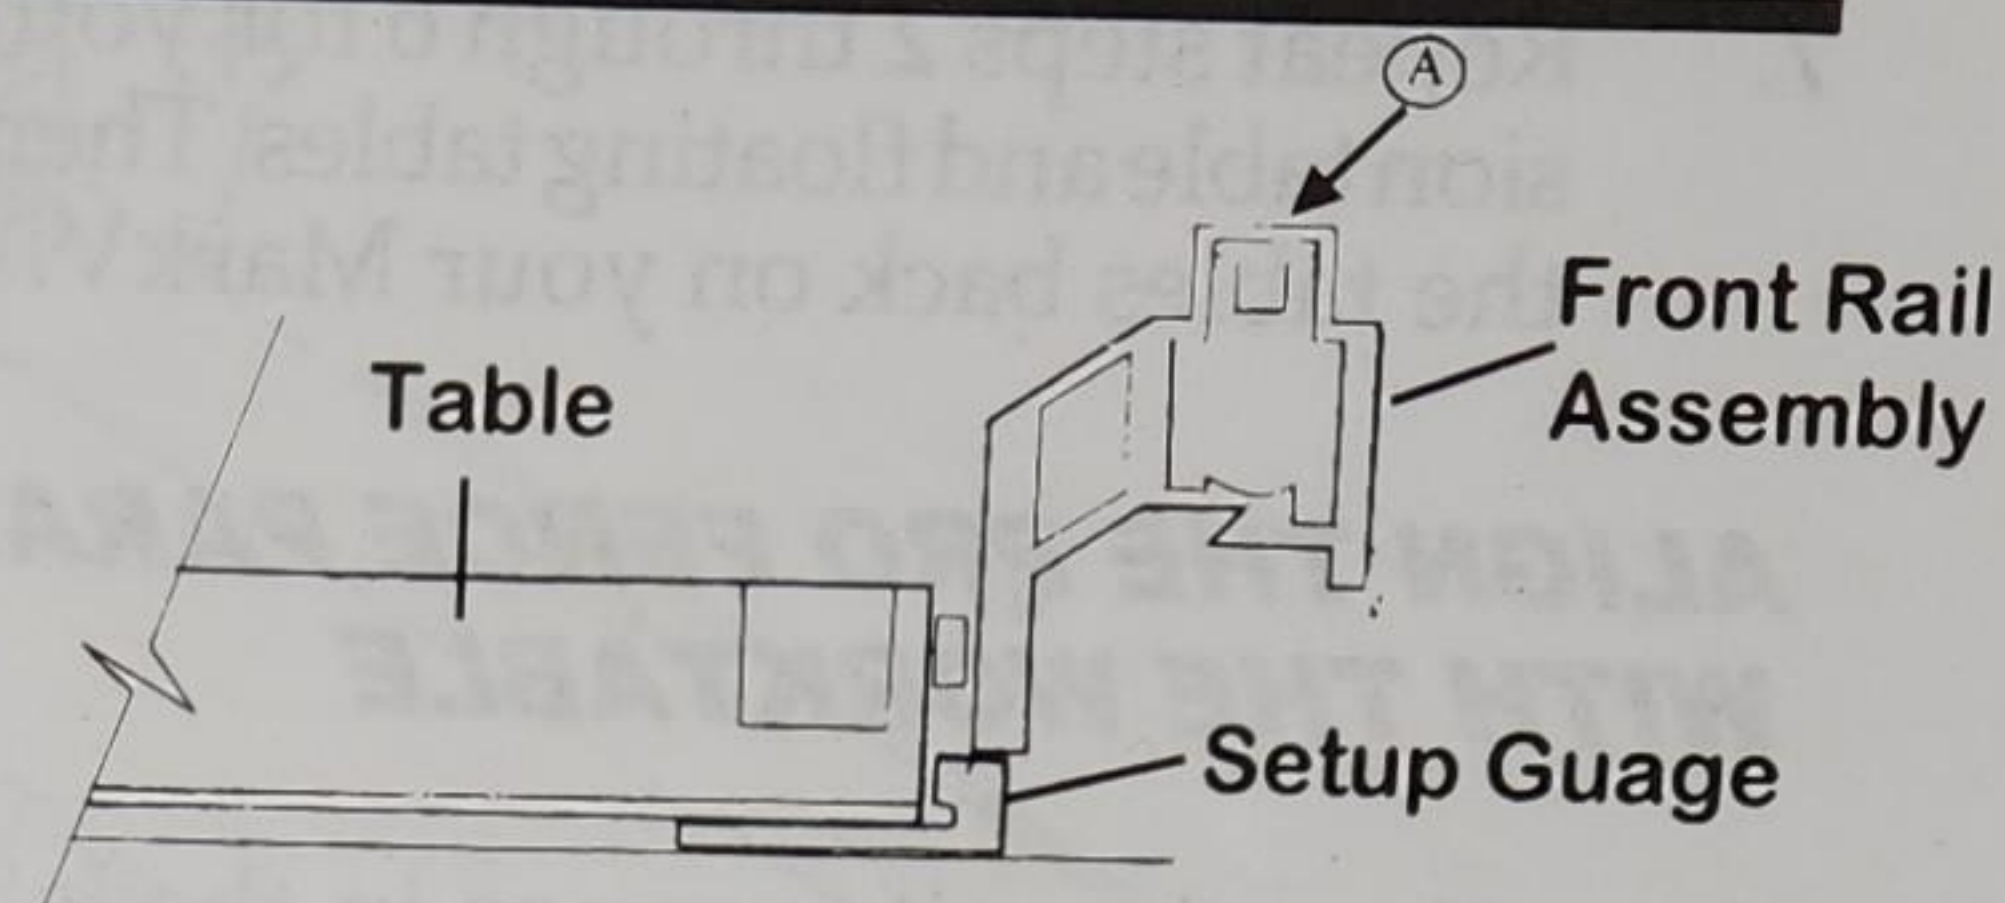
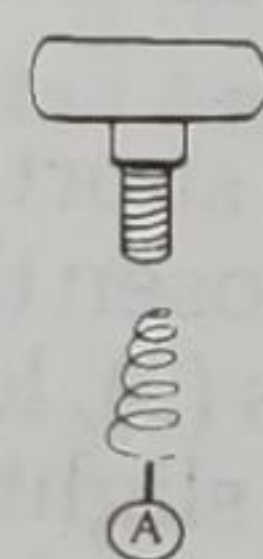

Figure A-1
Figure A-2
2. With your table upside down on a flat smooth surface, slide the setup gauge (25) under the front edge of the saw table near the table's center, the thick part should stick out from under the front and up toward the underside of the table (See Figure A-1).
3. Insert the flat head screws (23) through the front rail assembly (17) from the front, slide the spacer (24) on the screw and slide the screws through the tube mounting holes in the table.
4. Place the flat washer (120392) on the screw and then the keps nut (515294). Finger tighten only. Make sure the setup gauge (25) is flat against the surface of your table and against the front rail assembly and tighten nuts securely.
5. Slide the small diameter end of the spring (22) over the knob (21) (See Figure A-2). Thread the knob with the spring into the threaded inserts near each end of the rail assembly (Marked A in Figure A-1).